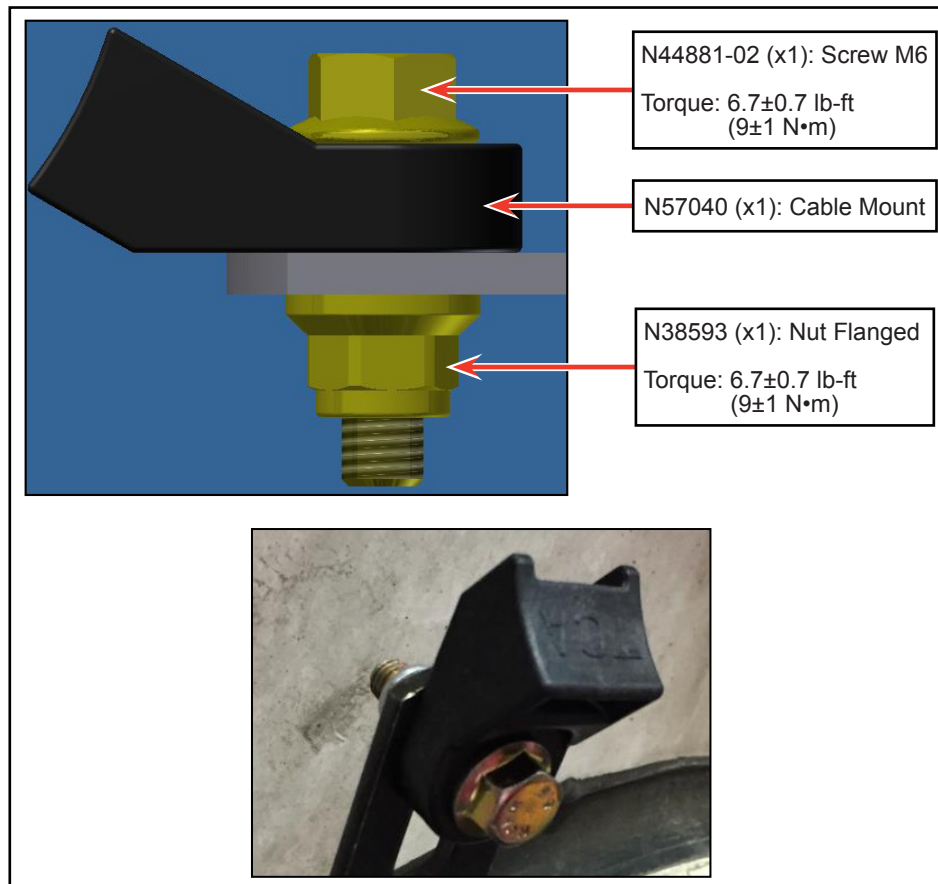

Figure 10 - Cable Mount Installation
- 1.19. Install a cable mount N57040 on the bracket end with hardware (see Figure 10).
1.20. Tighten the hardware as per torque recommendation (see Figure 10).